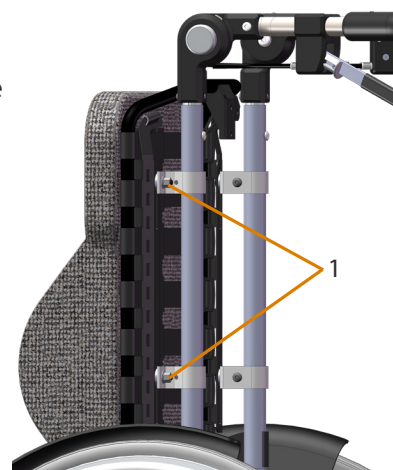

Figure 17. Nuts for height adjustment
- Loosen the two nuts on each side a few turns (1 in Figure 17).